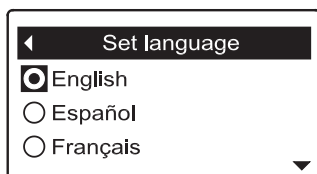

FIG. 108
4. The Set language menu is displayed (See Figure 108). The current language has a black dot next to it.